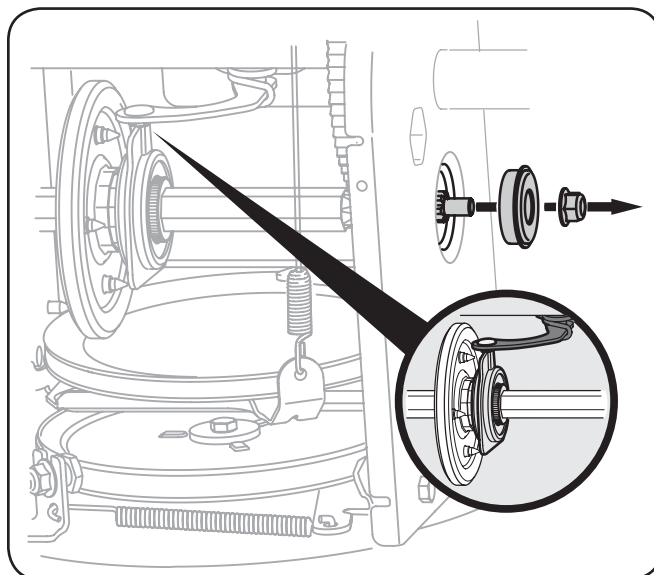

Figure 7-10
5. Carefully remove the hex nut which secures the hex shaft to the snow thrower frame and lightly tap the shaft's end to dislodge the ball bearing from the right side of the frame. See Fig. 7-10.
NOTE: Make sure the shift lever pin is in place in the bearing housing. See Fig. 7-10 inset.